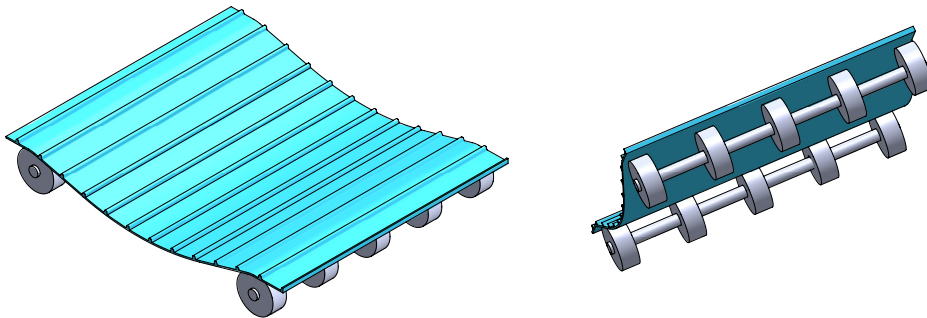

Figure 87
- Machined return rollers on the bottom side of an ELAClean® positive drive belt, that support the belt on the return way, are recommended (fig. 87).